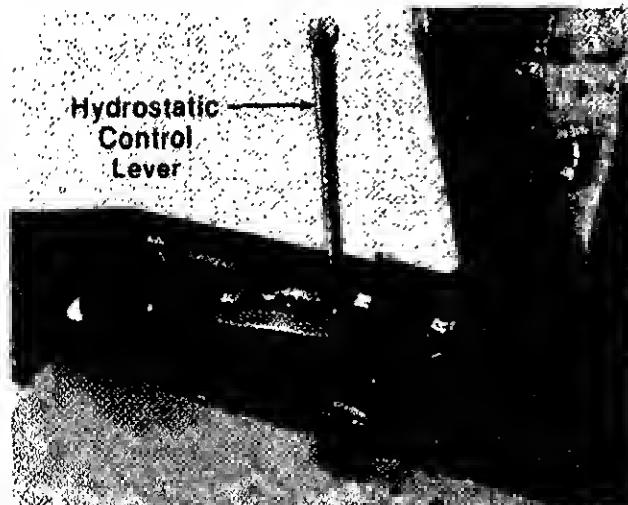

FIGURE 11.
A single control lever, connected to the hydrostatic transmission controls both the speed and direction of the tractor. Infinite speed control is achieved by moving the control lever forward or backward. The farther forward or backward you move the control lever the faster you will travel. Pulling the control lever into neutral (N) area will stop the tractor. To increase rear wheel torque (pulling power) move the control lever towards neutral (N) position. The riding mower responds similar to shifting to a lower gear with a gear type transmission. (See figure 11.)